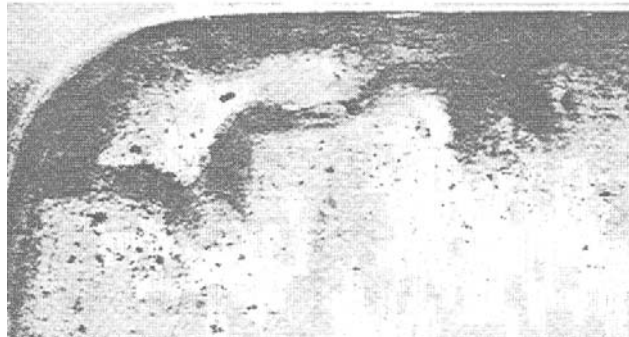

Fig. 9-9. Heat marks are actually shrinkage pits in the surface of the casting. Light colored areas surround each pit.
**Heat Marks.** Have the appearance of surface pits as shown in Fig. 9-9 and Fig. 9-10, and are caused by excessive die temperature or excessive metal temperature. Depressed areas in the casting and sharp inside corners are the most susceptible to this defect. Sometimes die temperature "balance" can be adjusted to eliminate heat marks. For example, the flow of cooling water to the area affected maybe increased, and decreased to the other die half in the same area.
**Broken Part.** A portion of the casting may stick in the die during ejection and the rest of the casting break away and eject normally. An example is shown in Fig. 9-9. The cause is the same condition as described for cracks: excessive metal or die temperature, insufficient die release material, or soldering.